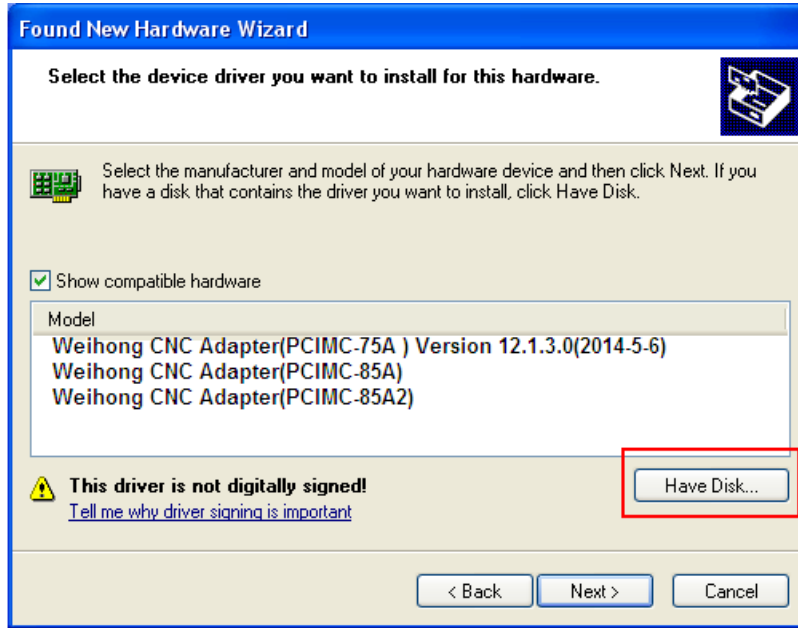
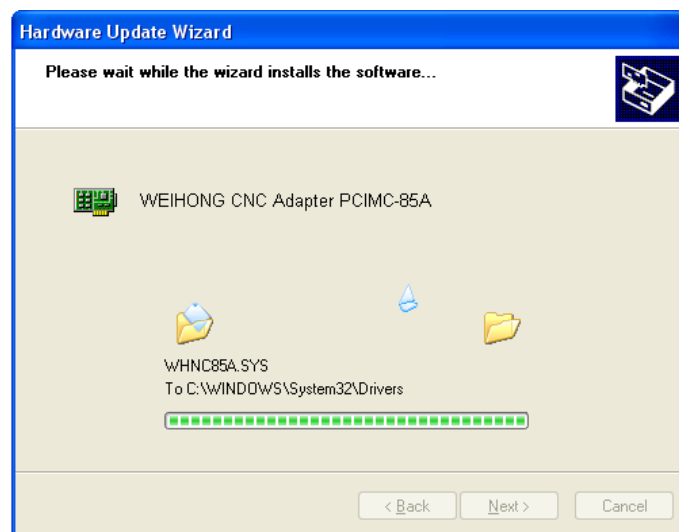

Fig. 2-10 Select the driver manually
Fig. 2-14 Updating the driver
3. Select “Don’t search, I will choose the driver to install”, and click “Next” to continue. A dialog box as Fig. 2-10 will pop up.
7. Click “OK”, and the system will go back to the dialog box as shown in Fig. 2-10. Click “Next” to start updating the hardware driver, as shown in Fig. 2-14.